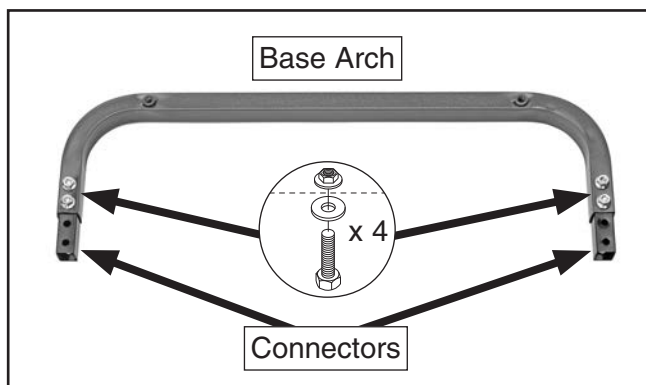

Figure 4. Connectors in base arch fastened in place.
2. Align two holes in each connector with two holes in base arch (see **Figure 4**) and secure with (4) $\frac{5}{16}$ "-18 x $1\frac{1}{4}$ " hex bolts, $\frac{5}{16}$ " flat washers, and $\frac{5}{16}$ "-18 flange nuts. Only hand-tighten for now.